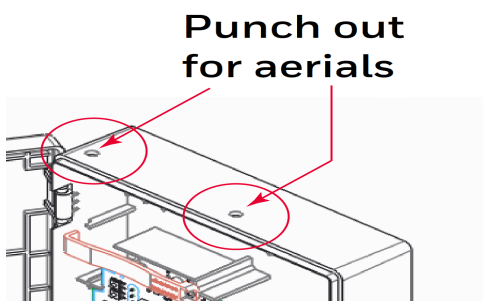

Figure 4-5: Knockouts on the Enclosure
02. Punch out the appropriate knockouts on the enclosure for the aerials (see Figure 4-5: Knockouts on the Enclosure ).